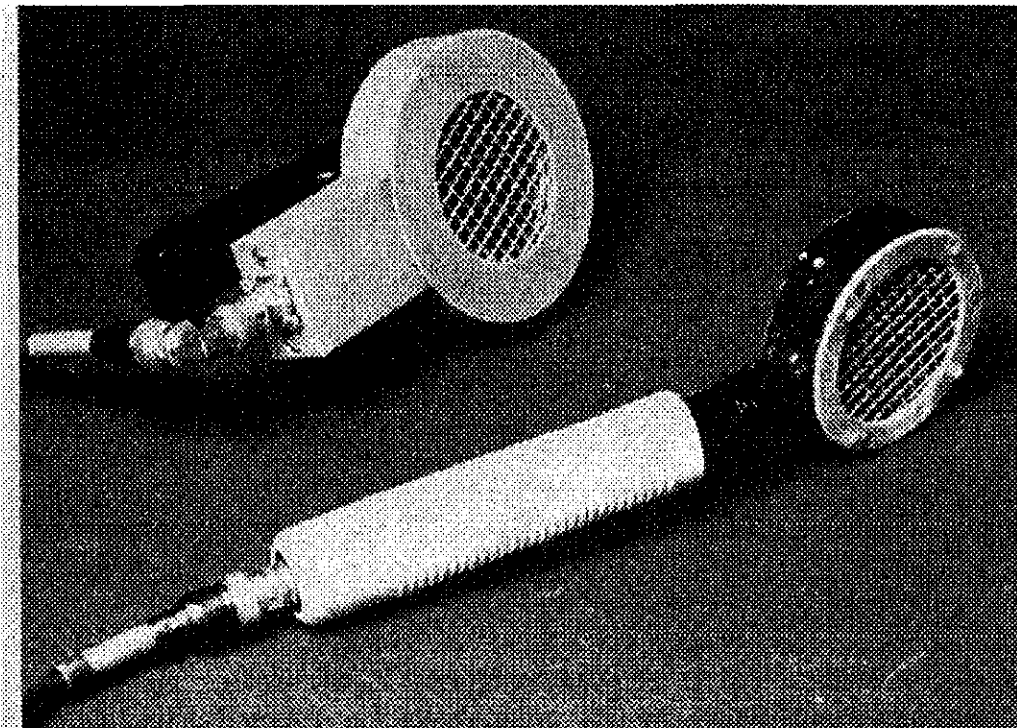

Fig. 9.1. Pancake Geiger Detectors.
Fig. 9.1 shows the pancake detectors that we use with the Portable Contamination Meter shown on page 187. Their efficiency is typically 20% for detecting beta particles emitted from a surface about 1 cm away. This high efficiency is the result of using the very thin window — the drawback is that because the window is so thin, the tubes are quite fragile and must be handled with care. The purpose of the wire screen that you can see in Figure 9.1 is to protect the thin mica window.
1. Select an instrument with one of the probes shown in Fig. 9.1.